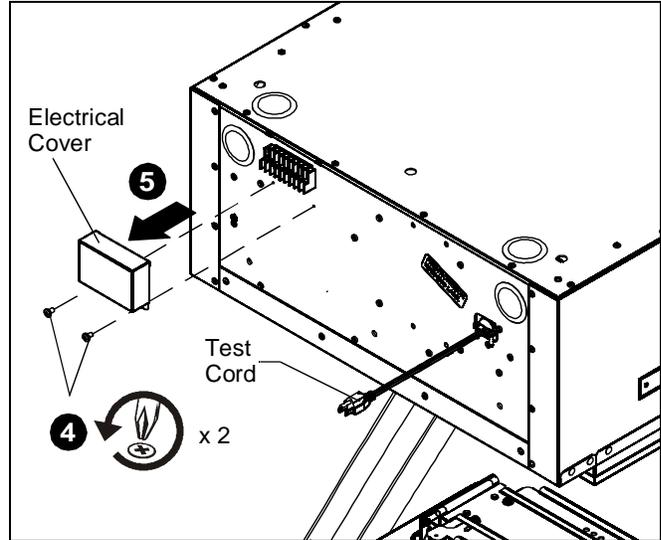

Figure 2
4. Remove and save two screws holding side electrical cover in place. (See Figure 2)
5. Remove electrical cover. (See Figure 2)
7. Plug in the SL236 test cord. (See Figure 2)